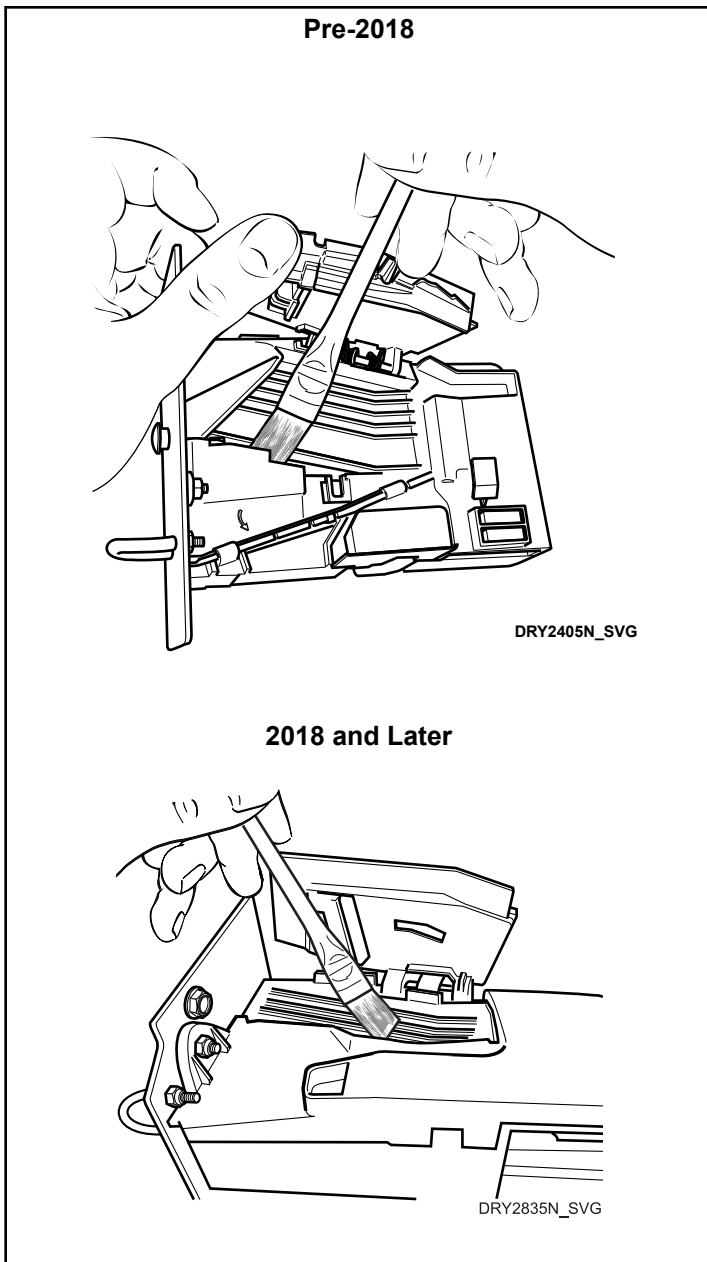

Figure 36
4. Clean the coin path with a soft brush and wipe exposed surfaces with an alcohol moistened lint-free cloth. Refer to *Figure 36*.